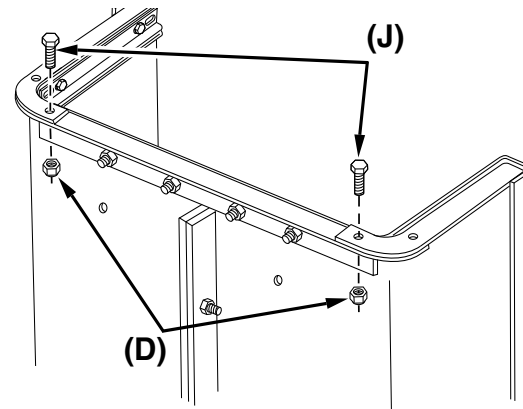

Figure 4
STEP 4 (SEE FIGURE 4): Assemble the LH and RH Rear Angles to the cart bed using two 1/4" x 3/4" hex bolts (J) and 1/4" nylock nuts (D).